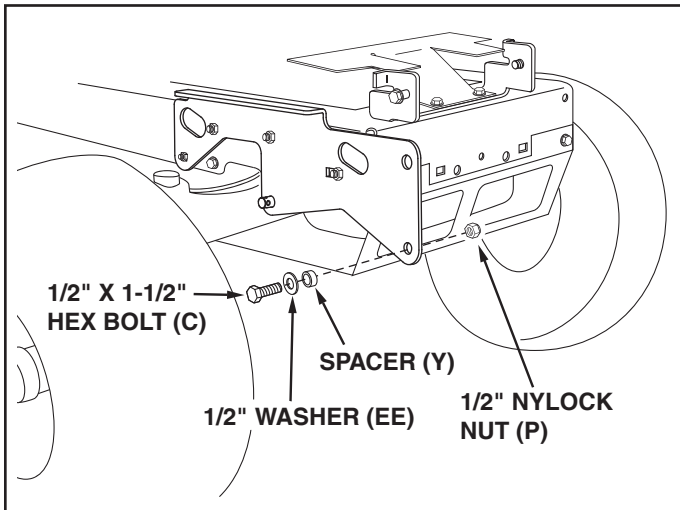

FIGURE 4
STEP 4: (SEE FIGURE 4)
- Place a 1/2" washer (EE) and then a short spacer (Y) onto a 1/2" x 1-1/2" hex bolt (C). Install the bolt in the bottom hole at the front of the R.H. side plate and secure it with a 1/2" nylock nut (P). Repeat for the L.H. side plate.